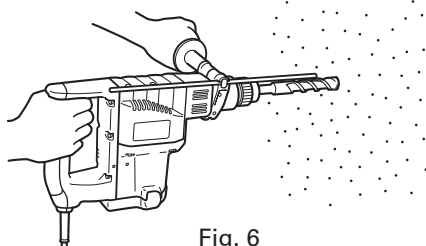

Fig. 6
- (1) Mount the drill bit.
- (2) Pull the trigger switch after applying the drill bit tip to the drilling position (Fig. 6)
- (3) Pushing the rotary hammer forcibly is not necessary at all. Pushing slightly so that drill dust comes out gradually is just sufficient.
- **When the drill bit touches an iron reinforcing rod, the bit will stop immediately and the rotary hammer will react to revolve. Therefore please grip the side handle and handle tightly as shown in Fig. 6.**